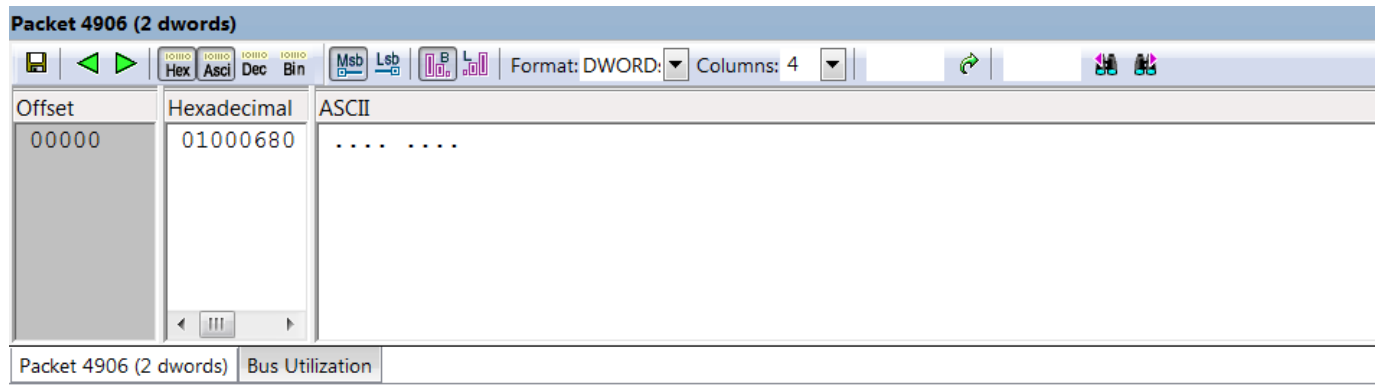

Figure 6.36: Data Block Dialog
2. Select **View Data Block** or the  **Data View** button to open the Data Block dialog box (see Figure 6.36 on page 406).